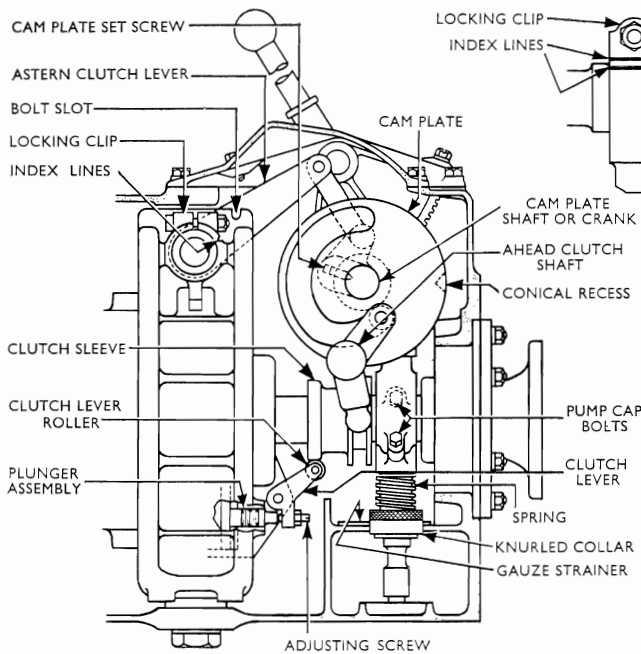

Fig. 4
10. **Adjustment of Ahead Clutch** (Refer to Fig. 4).—Move the clutch collar so that the lever rollers rest on its smaller diameter. Withdraw the adjusting screws until the ends are flush with the inside face of the levers.
13. **Final Adjustment of Astern Clutch.**—Remove the bolt from the slots in the brake shoes and turn the cam plate until the astern clutch lever is in its highest position (see Fig. 4).